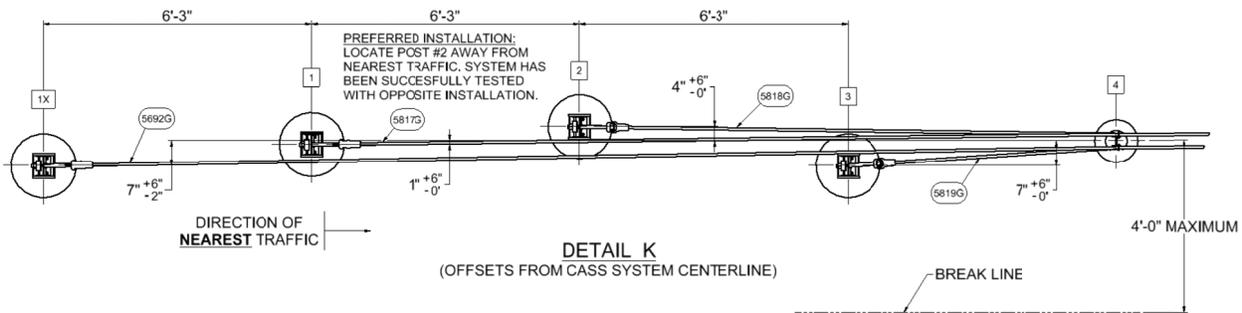

Figure 4 CRP Layout
1. Lay out the four footings. See Figure 4 for the footing locations and spacing.
- Place the stub post (PN-33934A) in the footing hole. See Figure 4 for the orientation of the stub. The weldment at the top of the stub should not be more than 4 inches above the finished grade.
- Lay out the four footings. See Figure 4 for the footing locations and spacing.
1. Lay out the post alignment and post spacing. Starting at post 4 (See Figure 4), post spacing for posts 4 through 9 is 6'3" (1.905m). The posts will be on the center line of the cable assembly.
1. Lay out the post alignment and post spacing. Starting at post 4 (See Figure 4), post spacing for posts 4 through 9 is 6'3" (1.9 m). The posts will be on the center line of the cable assembly.
1. Lay out the post alignment and post spacing. Starting at post 4 (See Figure 4), post spacing for posts 4 through 9 is 6'3" (1.9m). The posts will be on the center line of the cable assembly.
1. Use Option A to lay out the precut cables or Option B to lay out cables cut from a cable reel. See Figure 4 CRP Layout for the CR Post locations.